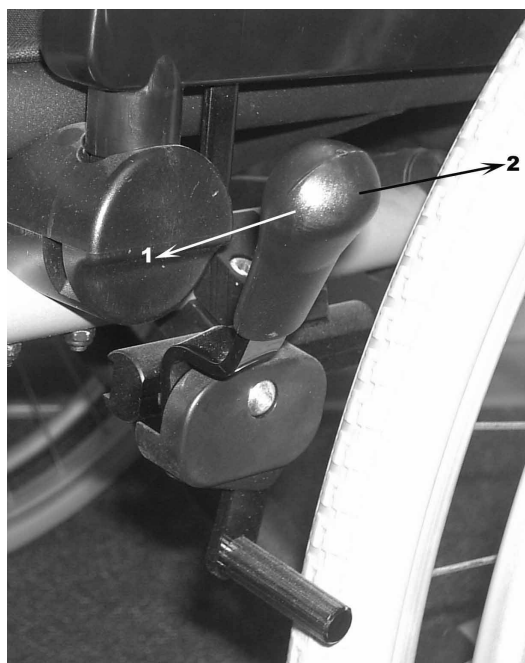

Fig. 5
To apply the brake push the lever forward (1). To release the brake pull the lever toward the wheel (2), (Fig. 5).